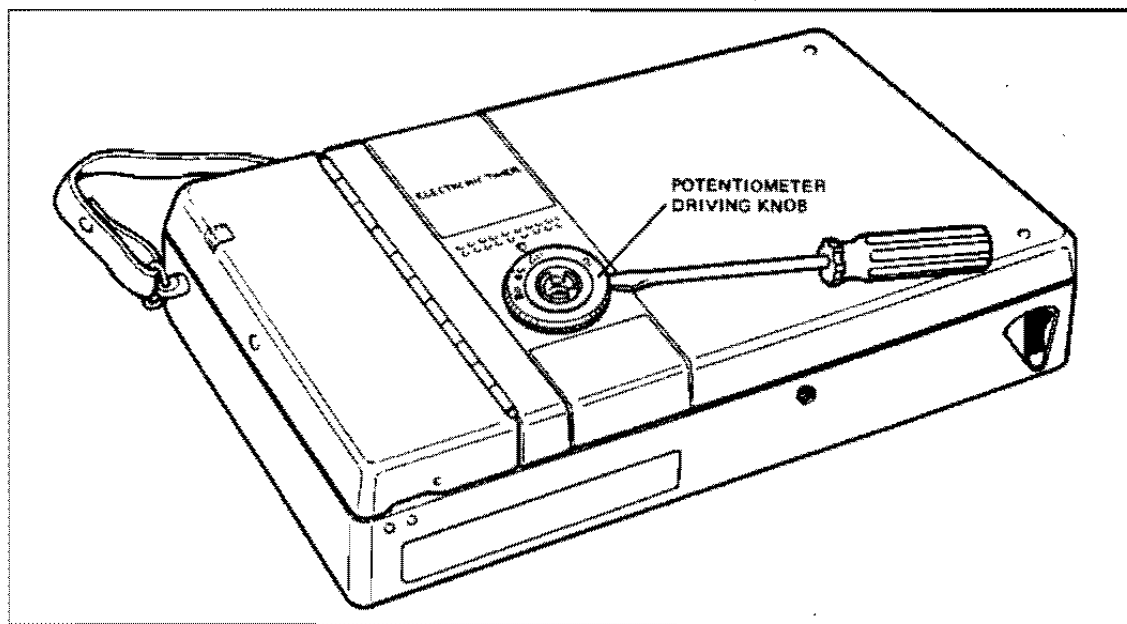

FIG. 4-4 REMOVING THE DRIVING KNOB
- b. Remove the potentiometer driving knob by prying it away from the timer using a fine blade screwdriver (Figure 4-4).